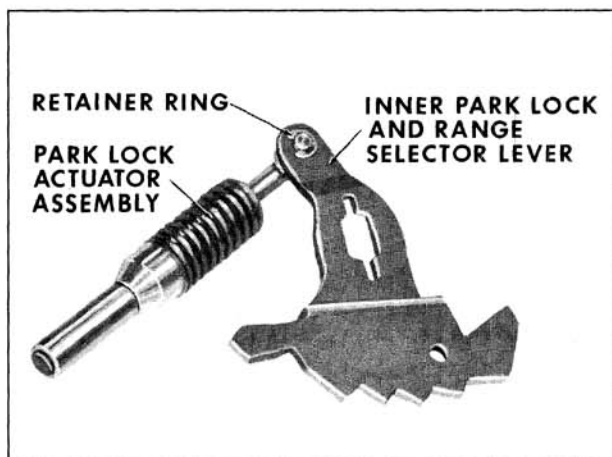

Fig. 6-389 Removing Park Lock Actuator
5. Remove retaining ring which holds inner park lock and range selector to park lock assembly. (Fig. 6-389)